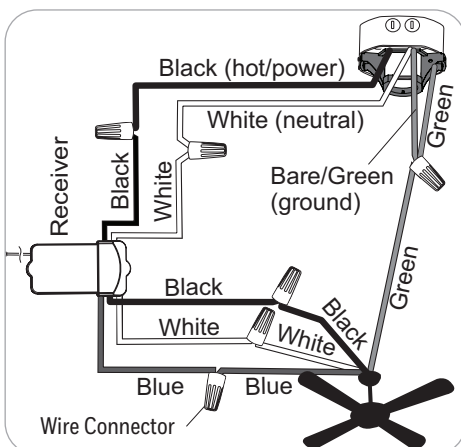

Figure 5.1
- Secure all wiring connections together with wire connector and the wire connectors from remote pack according to the diagram and these steps (Figure 5.1):